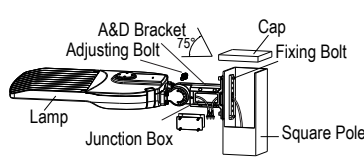
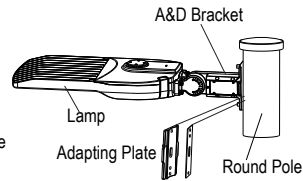

Figure 31
Figure 32
Step 2: Secure the A&D bracket to the square pole with bolts, open the cover of the A&D bracket junction box, pull the wires into the bracket junction box, connect the wires properly, and close the junction box (Figure 31).
Notice: The adjustable angle is 0.75° (Figure 31). For round pole installation, please remember to use the adapting plate (Figure 32).